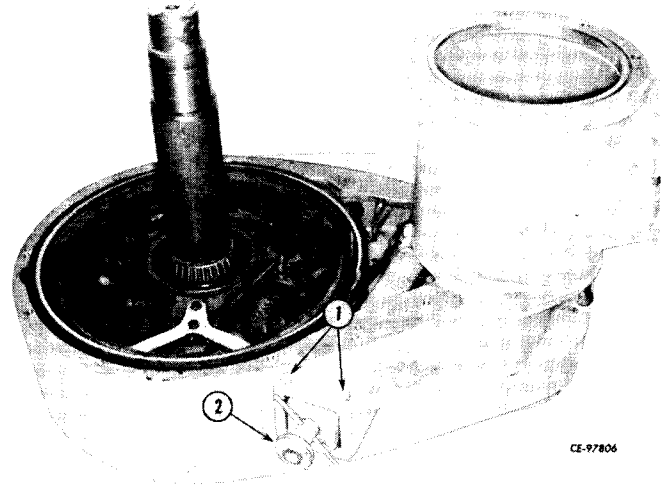

Figure 14-19
Remove cotter pins and spring retainer pins (1, Fig. 14-19). Remove brake spring assembly (2) from winch housing.
Install brake spring assembly (2, Fig. 14-19), engaging rod with brake band yoke and brake cylinder piston. Install retaining pins and cotter pins (1).